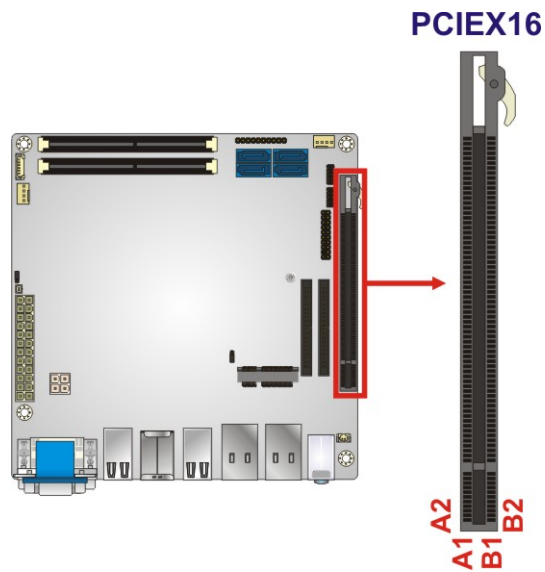

Figure 3-8: PCIe x16 Slot Location
- CN Location:** See **Figure 3-8**